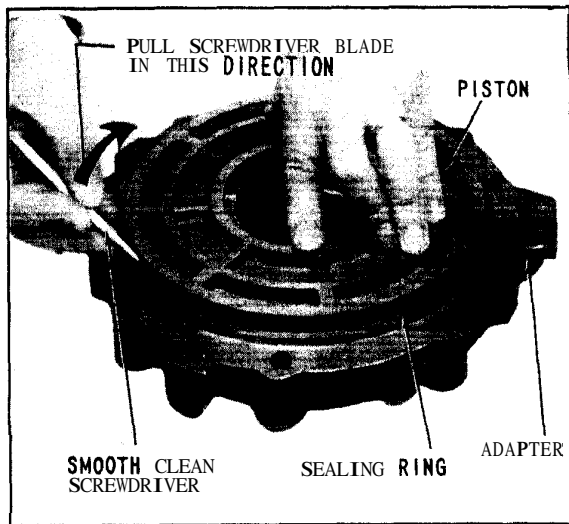

Fig. 59 Installing Reverse Clutch Piston in Adapter
53. Place the reverse clutch piston, as assembled in step 51 on the adapter, as assembled in step 50, (Fig. 59). Press down on reverse clutch piston while pulling a smooth, clean screwdriver blade around the exposed portion of the sealing ring. This will aid the chamfered bore in the adapter to compress the sealing ring into the groove in the outside diameter of the piston. Assembly can be completed by using hand pressure until piston has "bottomed" in reverse clutch cavity.